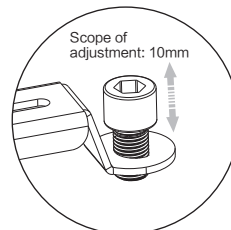

figure 14
4.Rotate the adjustable nuts (4-3) for adjusting the height of installation arms (4-2) if the installation holes are not at the same level as figure 14.